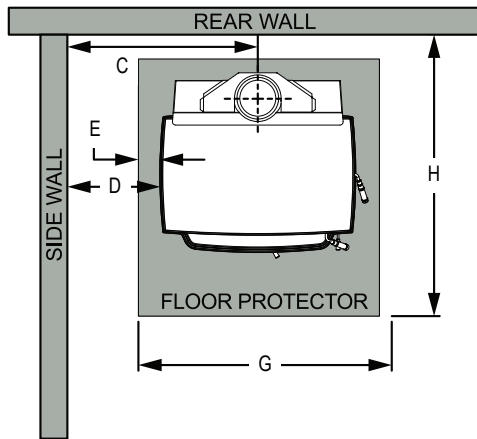

Figure 10.1
<ul style="list-style-type: none"> • The minimum Floor Protector sizes are specified in the clearance chart, see Figures 10.1 and 109.2 on page 10. • A Floor Protector can include ceramic tiles with grouted joints fixed directly onto a wooden floor or a sheet of toughened glass, panel steel or any other non combustible material laid directly onto a wooden floor. • If installed directly onto a concrete slab, the concrete slab can be considered as the floor protector, but must maintain the minimum measurement listed.
1. If a separate floor protector is being used position now. Place the firebox on the floor protector to suit the minimum installation clearances (**Figures 10.1 and 10.2 on page 10**).